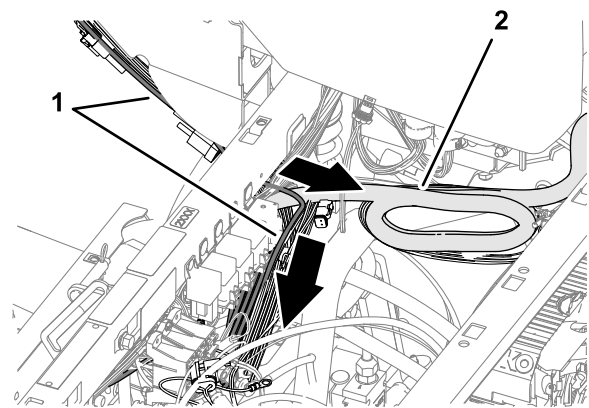

Figure 182
3. Route the modem data harness across the back of the relays and down (Figure 182).